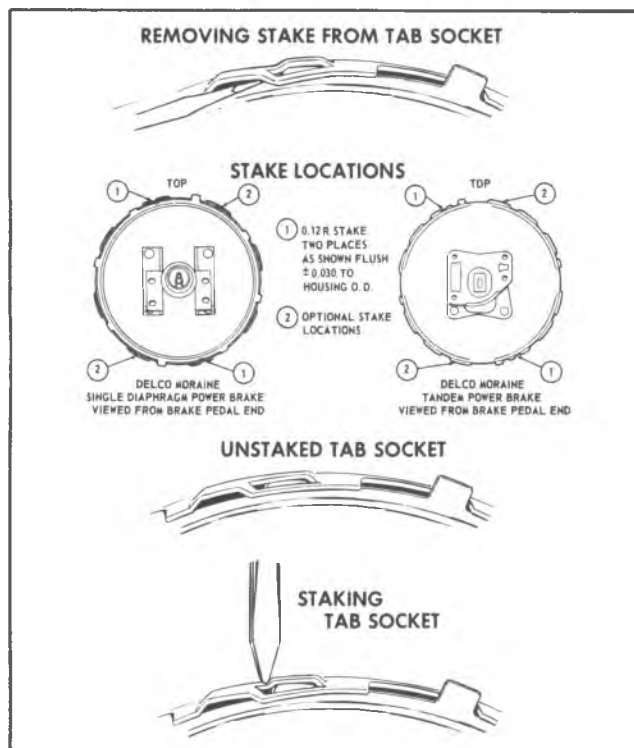

Fig. 5-9A—Staking Power Brake Housings
Mark staked interlocks so they will not be restaked. Then straighten staked interlocks (Fig. 5-9A).
6. Rotate the bar clockwise into locked position. Remove bar from front housing. Stake housing interlocks at 2 new locations 180° apart (fig. 5-9A).